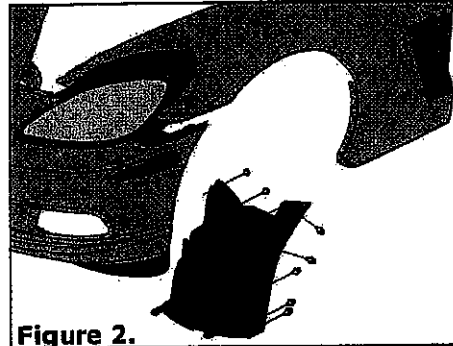
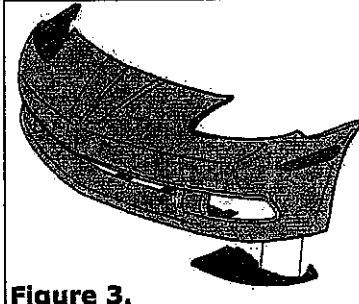

Figure 2.
Figure 3.
- Remove qty (8) push pins from each side of front wheel liner using a push pin removal tool (also called a crows foot): 3 along top edge and 5 along outboard fender edge (Figure 2).
- Remove qty (2) screws from each side (that connect the stock brake duct to wheel liner) using a 7mm socket and ratchet or driver. Slide wheel liner out and away from vehicle. Do NOT discard wheel liner or any of the fasteners, as they will be reused during installation.
- Pull the brake duct flange below the stud, then slide entire brake duct assembly toward the rear of the vehicle, as shown in Figure 3.
- Remove front fog lamps with a 7mm socket, unscrewing qty (3) bolts located on the inner fascia, below each lamp housing. Disconnect lamp harness by rotating clockwise 90 degrees. Tuck lamp harness and lamp into safe position until reinstallation. Rotate lamp at bottom and remove from locating holes. Set lamp aside.